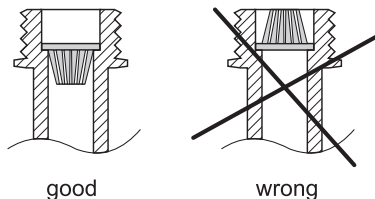

Fig. 9
5. Install filter into heater intake with basket bottom down (Fig. 9)